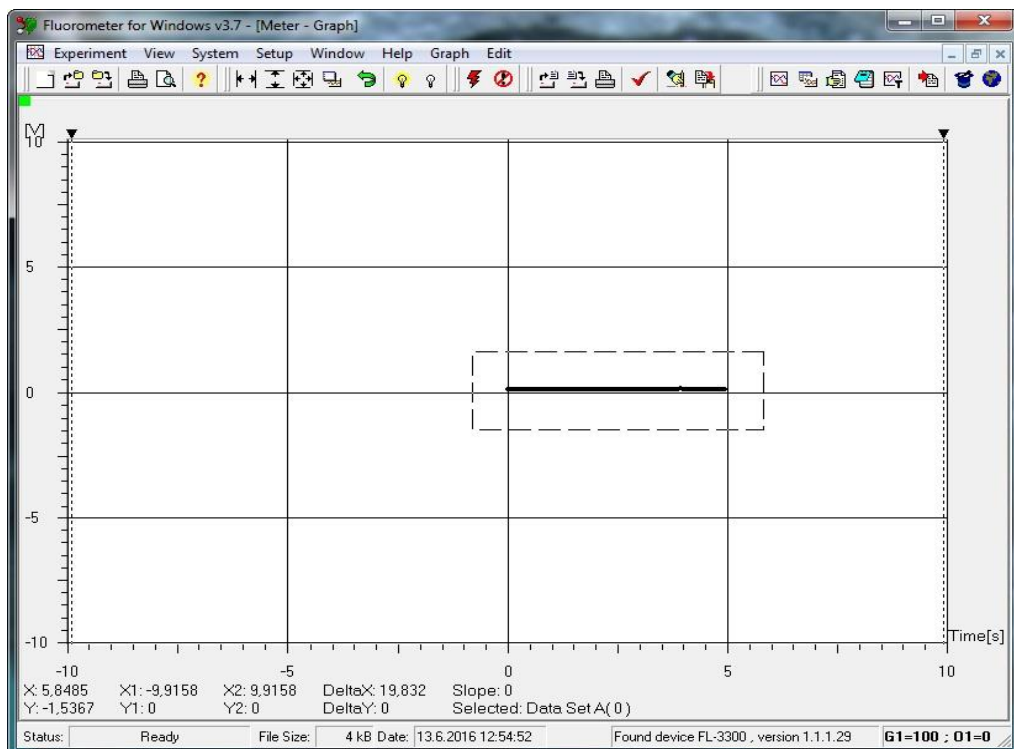

Fig. 40 Zoom in.
- To **zoom in** on the details of the graph press the left mouse button and move the cursor on the screen to define the rectangular area for zoom. Any action can be corrected by the Undo icon on the menu bar. Use left mouse button to zoom in (Fig. 40).